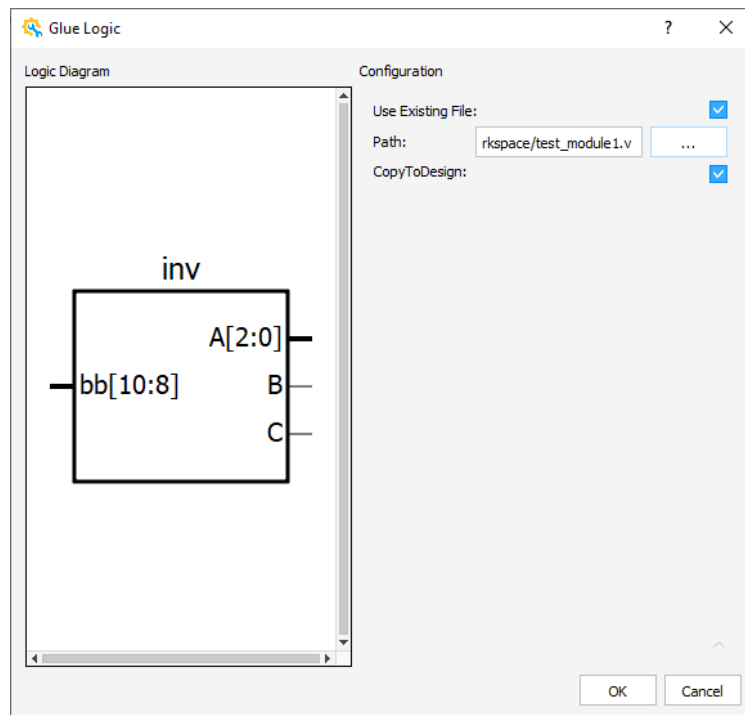

Figure 2.31. Existing Rtl Module Configuration
- c. Or you can use an existing rtl module by checking the **Use Existing File** checkbox. After checking the **Use Existing File** checkbox (Figure 2.31), browse to find the existing RTL module file path from the **Path** field. And, check the **CopyToDesign** checkbox, if you want to copy the rtl module to the design.